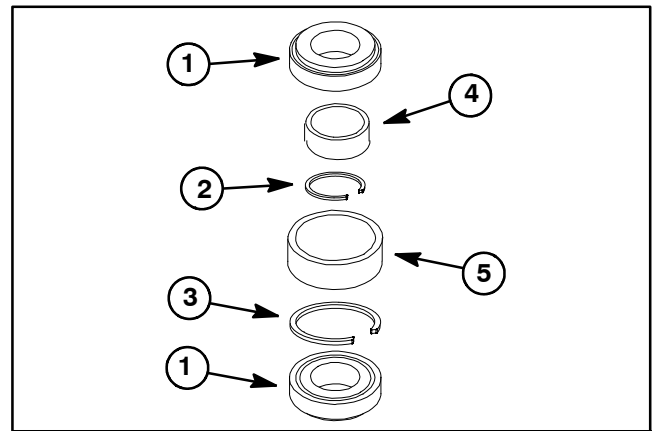

Figure 14
- Allow the bearing cones, inner bearing spacer and spacer ring to drop out of the spindle housing (Fig. 14).
NOTE: A replacement spindle bearing set contains two (2) bearings, a spacer ring and a large snap ring (items 1, 2 and 3 in Fig. 14). These parts cannot be purchased separately. Also, do not mix bearing set components from one deck spindle to another.
NOTE: A replacement bearing spacer set includes the inner spacer and outer spacer (items 4 and 5 in Fig. 14). Do not mix bearing spacers from one deck spindle to another.
IMPORTANT: If bearings are being replaced, make sure to use the spacer ring that is included with new bearing set (Fig. 14).